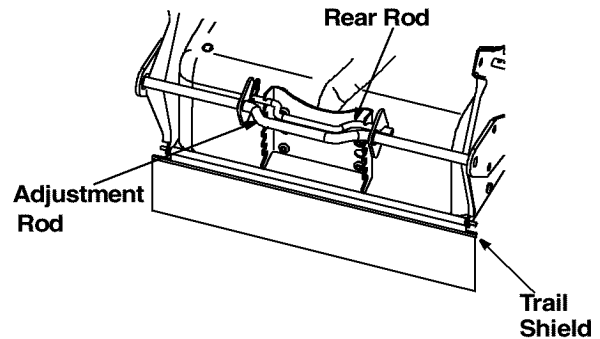

Figure 19
- Squeeze the two adjustment rods together and pull towards the operator. See Figure 19.
- Move rods upward or downward to any one of the six positions and reinsert. See Figure 19.